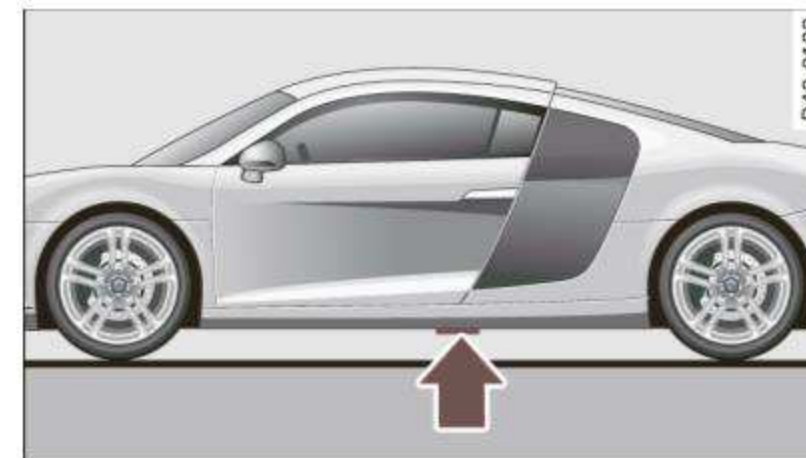

Fig. 132 Changing a wheel: mounting point for the jack
- Find the **lifting point** in the sill on the side with the affected wheel ⇒ *page 229*, fig. 132.
The jack must be installed **only** at the places indicated ⇒ *page 229*, fig. 132. There is *only one* designated jack mounting point for each side of the vehicle ⇒ ⚠.
A floor jack or the pads on the hoist arms must **not** be positioned at the points shown ⇒ *page 229*, fig. 132 -arrows-. ■